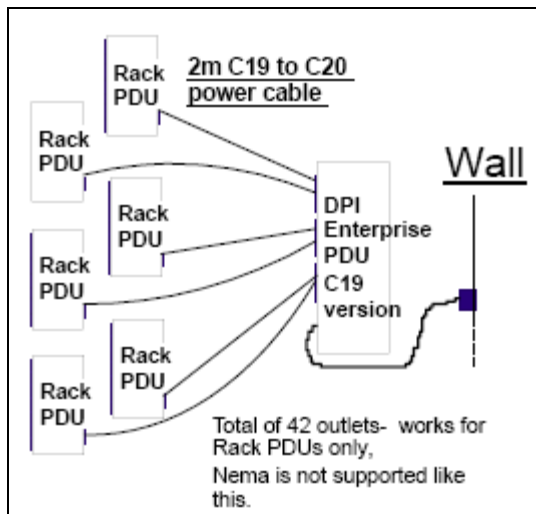

Figure 13 Enterprise PDU Layout Example
- 2) A choice that gives us greater expandability would be to have 2x C19 Enterprise PDUs (26K4256/39Y8948+40K9615) to act as FE pdus for 4 rack pdus. (32P1736/39Y8951) This way we'll still have the ability to add additional rack PDUs in the future. This would look similar to Figure 13 on each side. We can also use the 60A FE PDUs (32P1767/ 39Y8940) although future expansion is more limited.